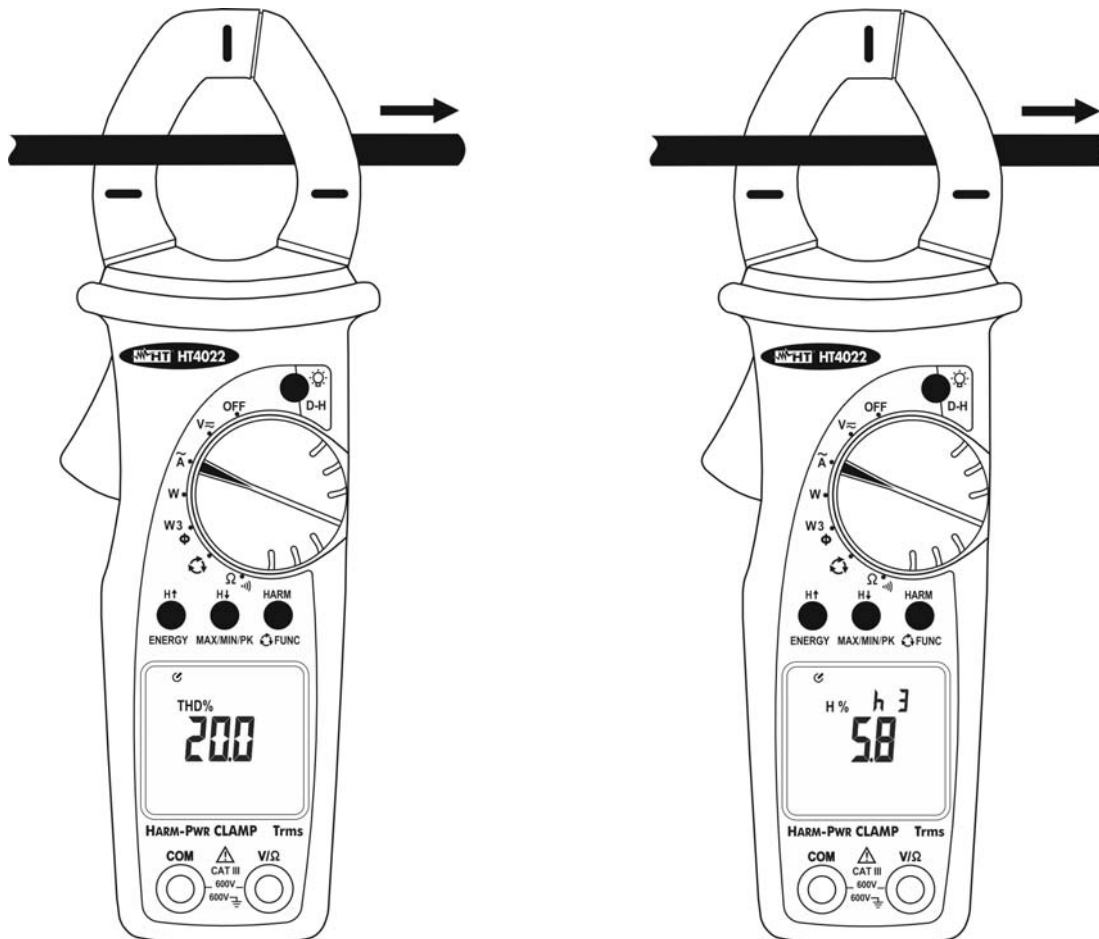

Fig. 10: Use of instrument for AC harmonic current measurement
3. Open the jaws and clamp only one cable. Pay attention to the alignment marks (see § 4.1.2. and Fig. 10). The instrument displays the Total Harmonic Distortion value of the input signal. The symbol “**THD%**” is displayed. See § 8 for the parameter’s definition.